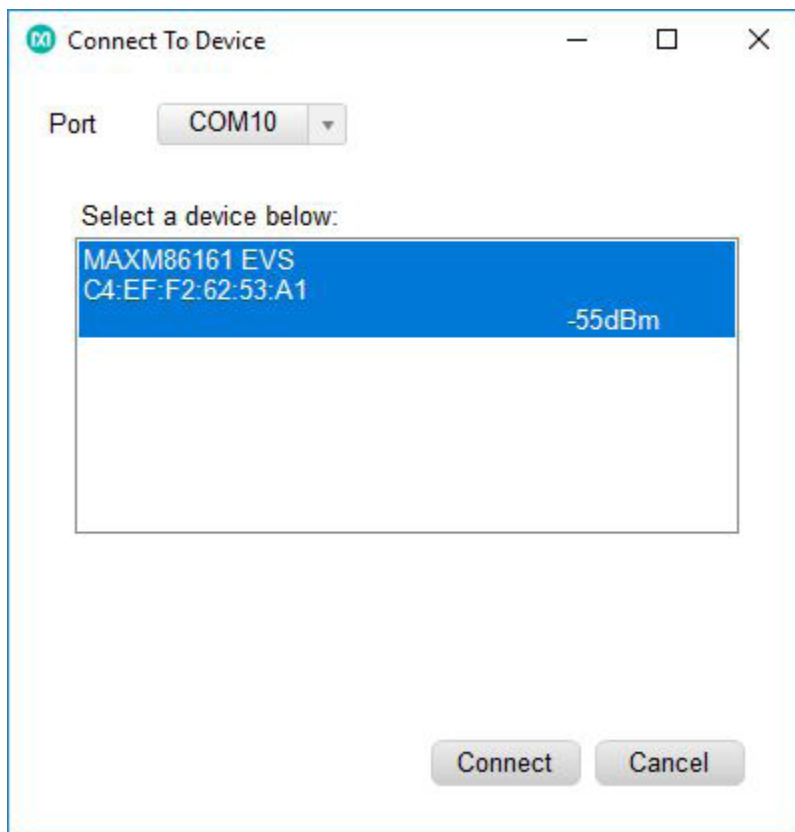

Figure 11. Connect to BLE Device
- 6) Press “Finish.” Next, the “Connect To Device” window appears. Choose your device and press “Connect” as shown in Figure 11.